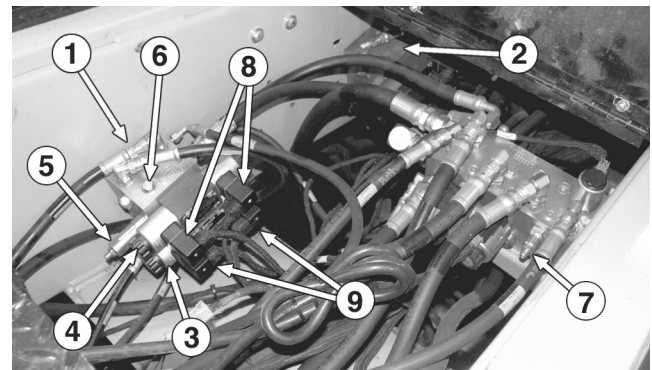

Figure 23. Gate/Hopper Manifolds
2) Disconnect the electrical connectors from the gate valves (**Figure 23**). Make sure that all conveyor, auger and spreadroll switches are all in the “off” position before starting the engine. Make sure the shutoff valve is shut. Failure to do so could result in a blown gage. back the standby pressure relief valve out 2 turns. Start the engine and run it at low idle. Open the shutoff and monitor the gage pressure.
5) Install a 5000 psi gage in the port marked “G” on the right gate manifold (**Figure 23**) located between the conveyors. On the front pump back the high pressure relief valve out about 2 turns.
10) Reconnect the electrical connectors from the gate valves (**Figure 23**).
5) Install a 5000 psi gage in the port marked "G" on the left gate manifold (**Figure 23**) located between the conveyors. On the rear pump back the high pressure relief valve out about 2 turns.